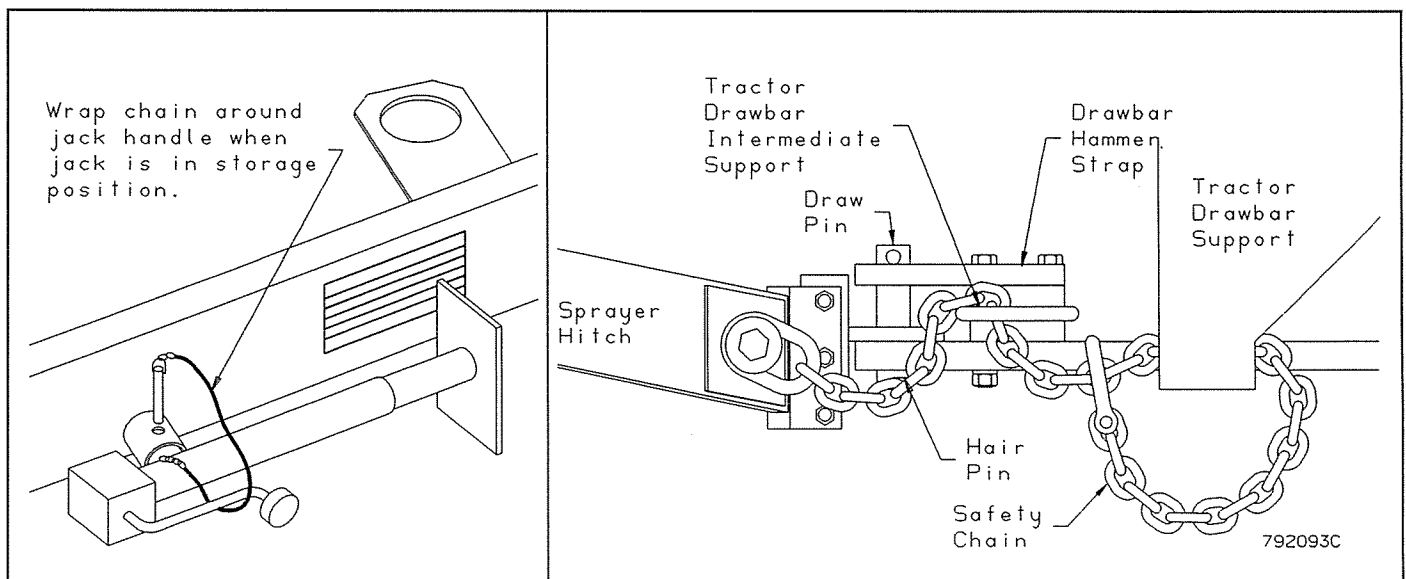

FIGURE 2.2d: Safety Chain and Tractor Connection
8. Use a safety chain of sufficient size to withstand a force of 20,200 pounds (90 kn) between Sprayer and tractor as shown in figure 2.2d. Attach the safety chain to allow proper articulation between Sprayer and tractor.